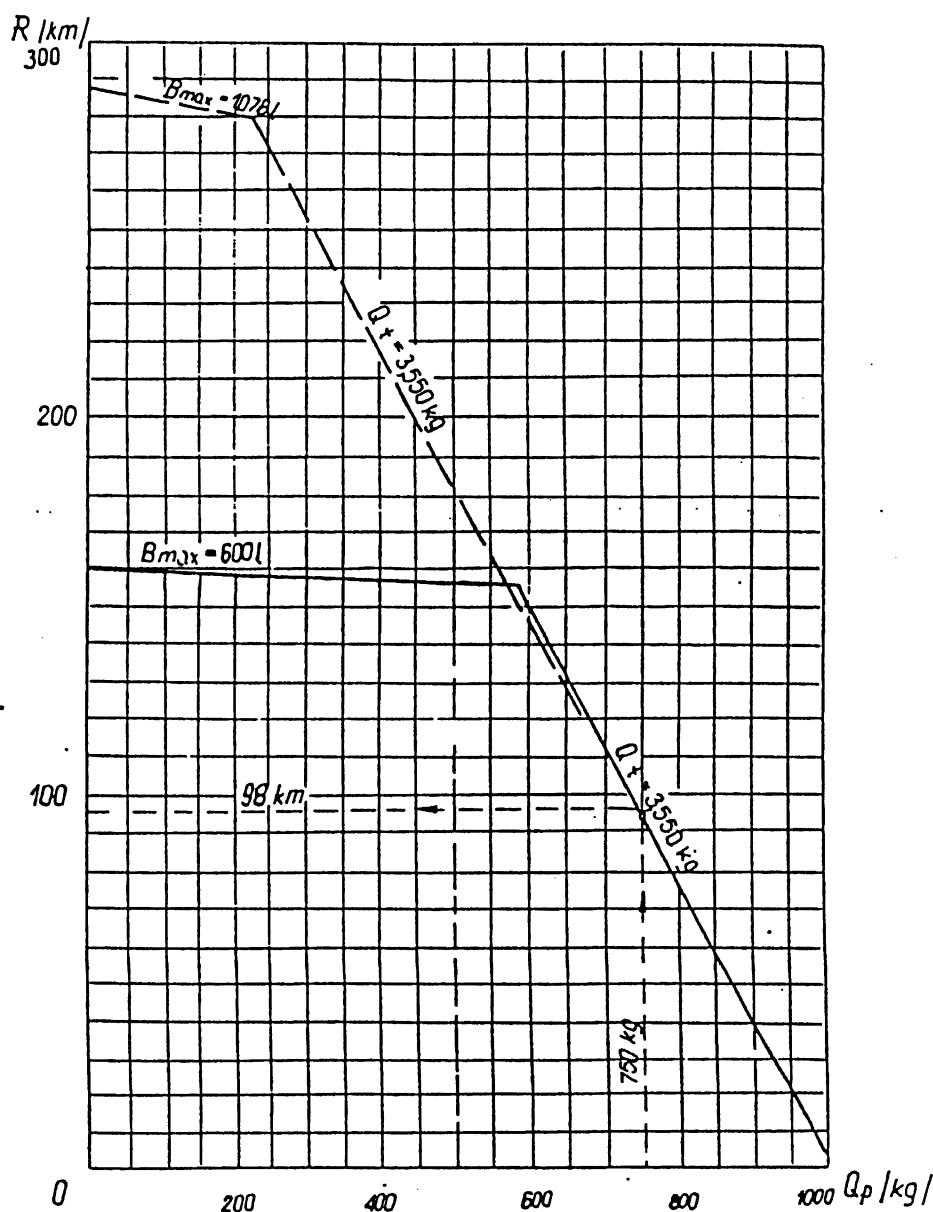

Fig. 5.15. RADIUS OF ACTION AT 100 m PRESSURE ALTITUDE
The charts in Figs. 5-15, 5-16, 5-17, 5-18 and 5-19 provide a means of determining the radius of action for specific flight altitude and loading.
The chart in Fig. 5-20 shows the "equivalent head/tailwind" affects the radius of action determined on the basis of charts in Figs. 5-15, 5-16, 5-17, 5-18 or 5-19, i.e. the initial section of flight path /from the point of departure to the point of unloading/.
3. From the applicable charts in Figs. 5-15, 5-17, 5-18 or 5-19, read a corresponding theoretical radius of action for windless conditions.